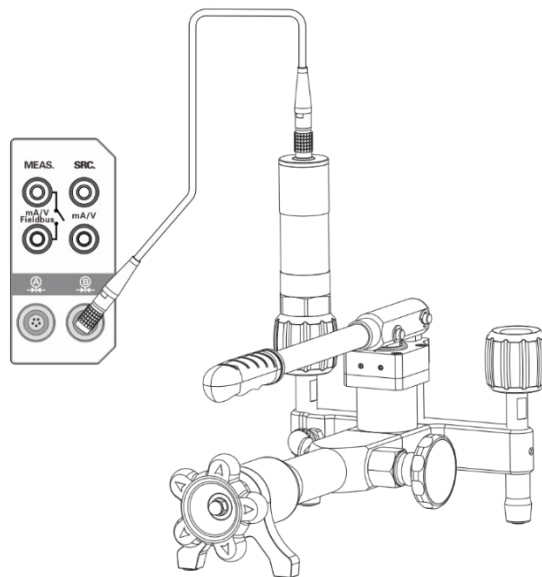

Figure 19 Connection of the external module
1. Connection: Connect the external pressure module as shown in Figure 19.